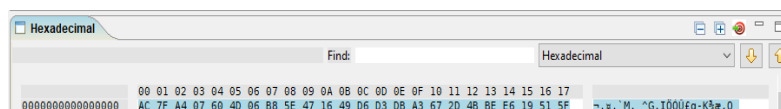

Figure 36: Find Bar for Hexadecimal Search
1. Display the find bar (by activating the menu item “Window” → “Toggle Find Bar” or through the keyboard shortcut Ctrl + “F”) – the find bar is shown on top of the Hexadecimal view as in Figure 36.